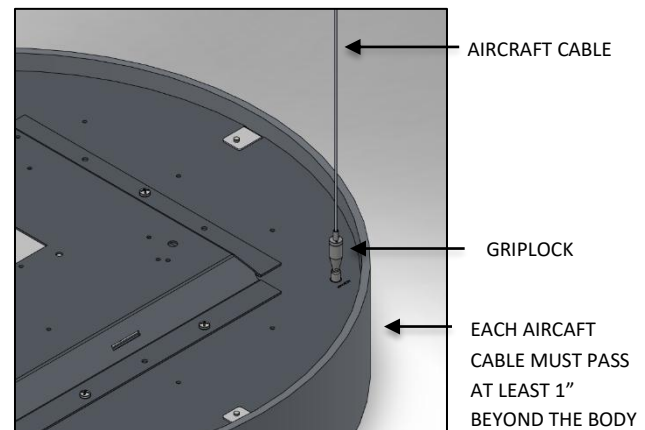

FIG. 25 – AIRCRAFT CABLE INSTALLATION
2. To feed AIRCRAFT CABLE into the GRIPLOCK, press the plunger of the GRIPLOCK and insert the AIRCRAFT CABLE into the body of the GRIPLOCK as shown in FIG. 25.